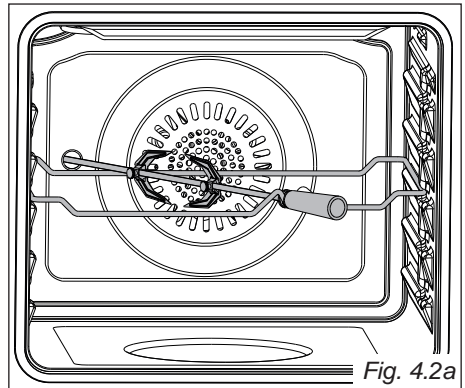

Fig. 4.2a
USE OF THE ROTISSERIE (fig.4.2a, 4.2b)
- Insert the baking tray into the lowest rack holders of the oven and insert the rod support into the intermediate rack holders (fig. 4.2a, 4.2b).
- Insert the rod into the motor opening (fig. 4.2a, 4.2b). It is correctly fitted only if the rod does not turn when inserted. It will then rotate only when the spit motor is operating (check the right rotation of the rod).
- Rest the rod onto the support of the spit collar (fig. 4.2a, 4.2b); then remove the grip by turning it to the left.